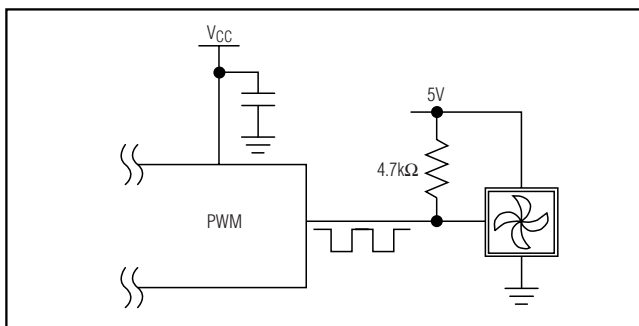

Figure 6. Controlling a PWM Input Fan with the MAX6615/MAX6616's PWM Output (Typically, the 35kHz PWM Frequency Is Used)
- 3) PWM_ directly drives the logic-level PWM speed-control input on a fan that has this type of input. This approach requires fewer external components and combines the efficiency of (1) with the low noise of (2). An example of PWM_ driving a fan with a speed-control input is shown in Figure 6. Bit D4 in register 02h should be set to 1 when this configuration is used.